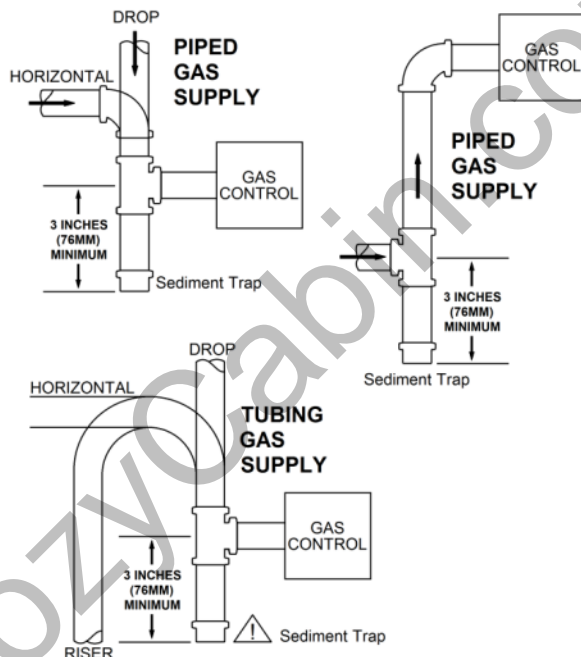

Figure 14 – Sample Gas Supply Sediment Traps
NFPA Code and Hearthstone require the use of a dedicated sediment trap just upstream of the unit. Damage to the valve, or other components due to the lack of a sediment trap are not covered by warranty (see figure 14).
- Install the sediment trap (where required) in the gas supply line to prevent contamination of the gas valve (see figure 14).